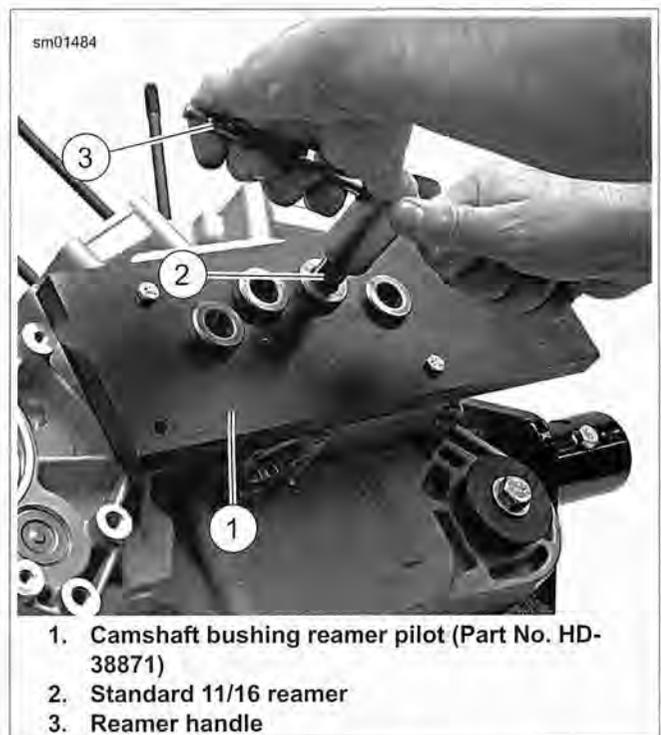

Figure 3-116. Reaming Cam Gear Bushing in Right Crankcase
2. See Figure 3-116. Position CAMSHAFT BUSHING REAMER PILOT (Part No. HD-38871) onto gearcase side of crankcase; upper right and lower left indexing holes in pilot must be placed over dowels in crankcase. Insert two bolts (supplied with pilot) through two remaining holes in pilot, and into threaded holes of crankcase. Tighten bolts securely.